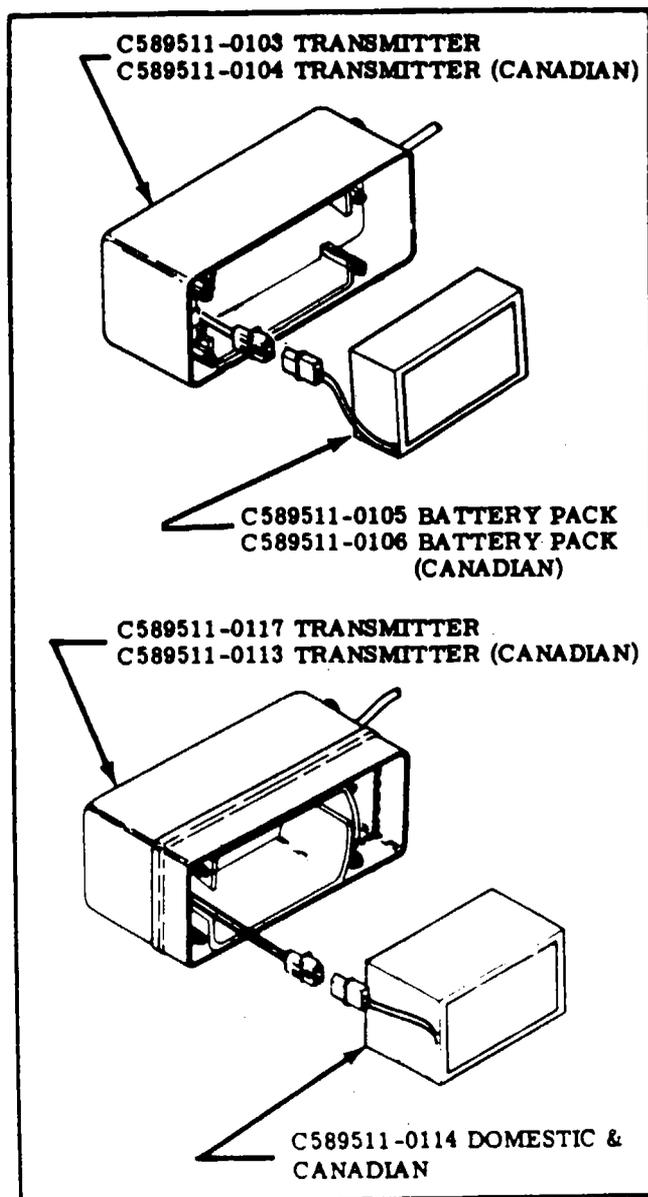

Figure 17-23. Battery Pack Installation.
17-129. REMOVAL AND INSTALLATION OF BATTERY PACK (See figure 17-23).
- Place new battery-pack in the transmitter with four batteries as shown in the case in figure 17-23.
- Connect the electrical connector as shown in figure 17-23.